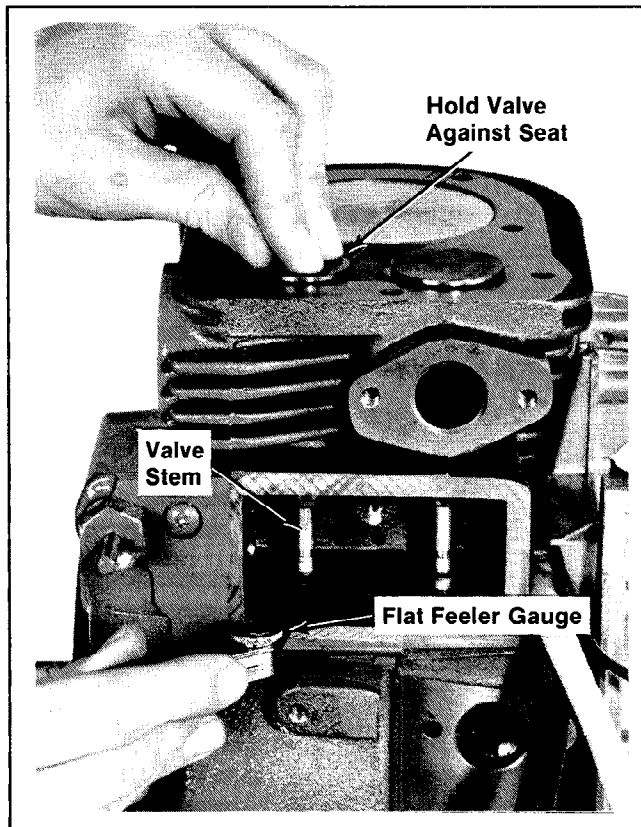

Figure 12-38. Measuring Valve-To-Tappet Clearance.
2. Install the valves and measure the valve-to-tappet clearance using a flat feeler gauge. Refer to Figure 12-38.